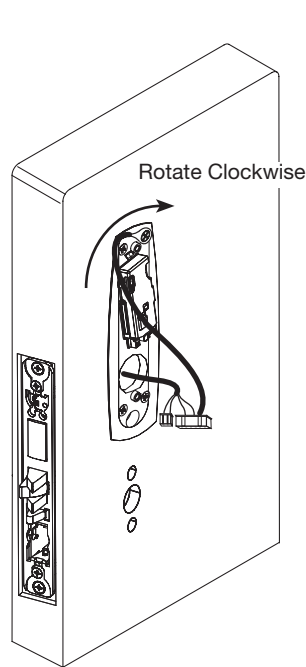

Fig. 10a
- Press piece against door while turning clockwise (Fig. 10a).